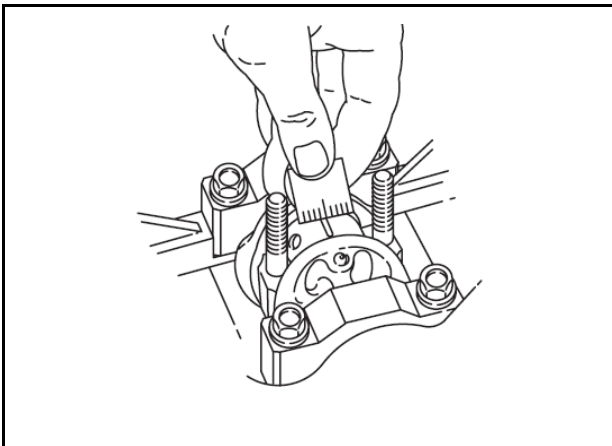

Fig.9-Measure Clearance
3. Remove the connecting rod cap. Measure the plastigage at its widest point, Fig. 9. If the clearance is not within specification, replace the bearings.